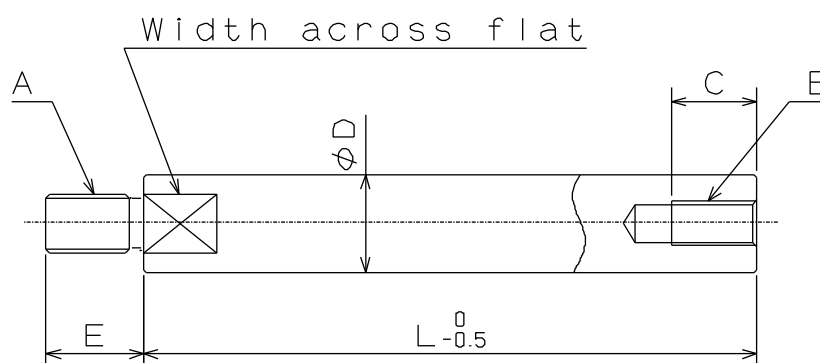

Fig.23
- Keep the dimension D in Fig. 23 for the draw bar and a material with the tensile strength 380MPa or more must be used.